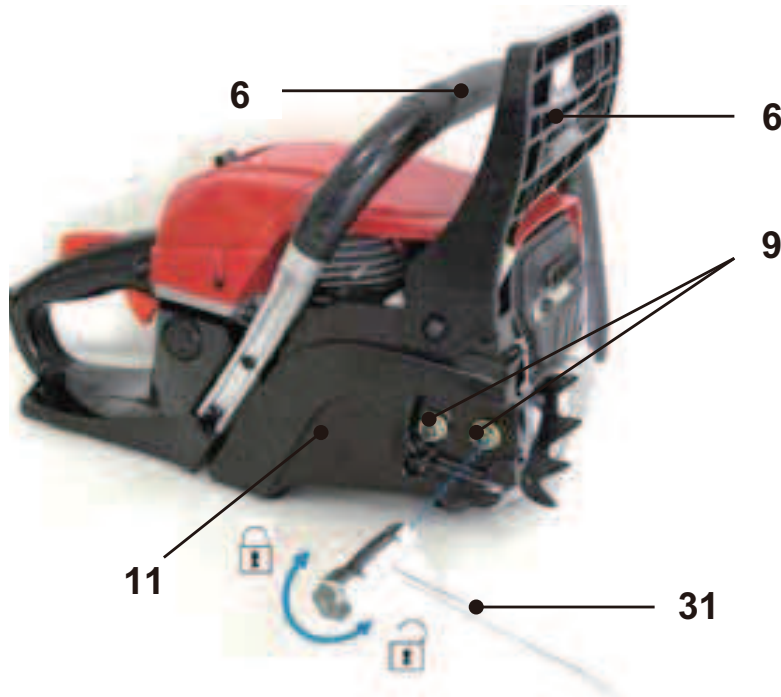

Fig. 1
2. Pull the front hand guard (6) back toward the front handle (5) to disengage the chain break, if necessary.
3. Loosen the retaining nuts (9) with the multi tool (31) and remove them together with the cover (11) (Fig. 1).